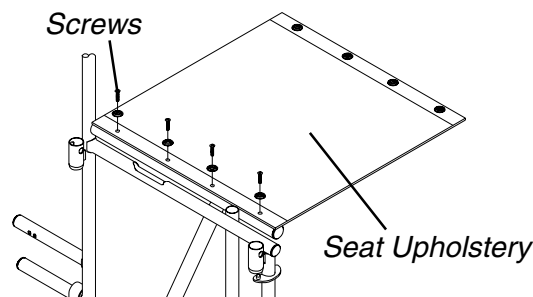

FIGURE 3- REPLACING THE SEAT UPHOLSTERY
**REPLACING THE SEAT UPHOLSTERY (FIGURE 3)**
1. Remove the eight (8) screws that secure the existing seat upholstery to the crossbraces.